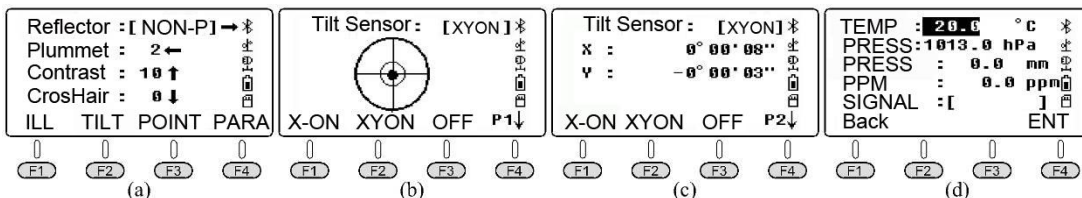
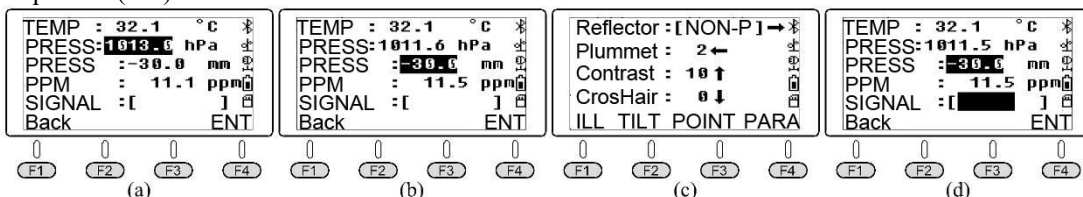

Figure 2-7 Starkey Menu of GINTEC M8 Total Station
Figure 2-8 Input atmospheric temperature and pressure and then the instrument will automatically calculate PPM value.
Press **★** to open the main menu of Starkey [Figure 2-7(a)]. Use the four cursor movement buttons **→**, **←**, **↑**, **↓**, and four function buttons **F1**, **F2**, **F3**, **F4**. Press button **ESC** to close the Starkey menu.
(1) The operation methods of four cursor movement keys (◀, ▶, ▲, ▼)
① Reflector: Used to adjust reflector type, press button (▶) several times, so that it is allowed to achieve cycle switch among options of Single Prism → Reflectorless → Reflective Sheet → Single Prism in the reflector .
② Plummet: Used to adjust laser intensity, press button (▶) several times, so that it is allowed to achieve the cycle switch of the light intensity of the lower laser point among number 2→1→0→4→3→2. 0 is to close the laser plummet.
③ Contrast: Used to adjust contrast, press button (▲), so that it is allowed to achieve the cycle switch of the LCD contrast ratio among the number 10→11→..... - 16-00-01-02... →09→10.
④ CrosHair: Used to adjust telescope cross wire illumination intensity. Press button (▶) so that it is allowed to achieve the cycle switch of the light intensity of the telescope cross wire illumination intensity among number 0→1→2→3→4→0. 0 is to close the cross lighting.
(2) The functions and operation methods of the four function keys (F1), (F2), (F3), (F4)
① ILL(Illuminate): Used to adjust buttons and screen backlight. Press (F1) button to achieve the switch of background light between on and off.
② TILT: Used to turn the compensator on or off. Press (F2) to enter the 1/2 interface of the compensator [Figure 2-7(b)], and you can refer to the electronic bubble displayed on the screen. When the electronic compensator is open, the instrument will automatically decompose the vertical axis tilt into two components of alignment axis direction (X axis) and horizontal axis direction (Y axis) for tilt compensation, referred to be as biaxial compensation. Press button (F1) (single axis) to set the single axis compensation. Press button (F2) (double axes) to set the biaxial compensation. Press button (F3) (off) to turn off the compensator.
Press (F4) to turn to the interface P2 of the compensator [Figure 2-7(c)], and the screen displays the two components of the current inclination of vertical axis of the instrument in the alignment axis direction (X axis) and horizontal axis direction (Y axis).
③ POINT: Used to switch the pointing laser between on and off.
④ PARA(Parameters): Used to modify atmospheric correction parameters. Press (F4) to enter the parameters interface [Figure 2-7(d)]. Input the values of current measured atmospheric temperature and atmospheric pressure with the digital buttons. Then the system will automatically calculate the PPM value and will apply it to make meteorological correction on the measured distance.
In the parameter interface [Figure 2-7(d)], press s (3) (2) (·) (1) (ENT) to input the value of atmospheric temperature [Figure 2-8(a)]. Press s (1) (0) (1) (1) (·) (6) (ENT) to automatically calculate PPM=11.5 PPM [Figure 2-8(b)], which is consistent with the calculation result of Equation (2-4).
Signal is used to measure the intensity display of backlight signal at the center of photoelectric aiming prism. Before delivery of the instrument, the errors of telescope alignment axis, ranging emission optical axis and receiving optical axis, the three coaxial axes, are calibrated rigorously within the range prescribed by the factory. There may be relatively big errors of the different axes among the three axes after severe vibration in the process of transportation: when the telescope aims precisely at the center of the prism, but the emission optical axis doesn't aim at the center of prism. At this point, it is workable to use photoelectric aiming to make the emission optical axis aim precisely at the center of the prime. The method is to press buttons (★) (▶) (▶) to set the reflector to be "Prism" [Figure 2-8 (c)]. Press button (F4) (parameters) to make the telescope aim at the center of prism. At this point, the stripes length in the column of the "Signal" indicates the strength of the reflected ranging signal [Figure 2-8 (d)]. "Prism Constant" at -30 mm is the factory value of the instrument. Rotate the horizontal fretting screw or telescope fretting screw. When the strength of the heliogram reaches the maximum, it indicates that the emission optical axis has been precisely aimed at the center of the prism.